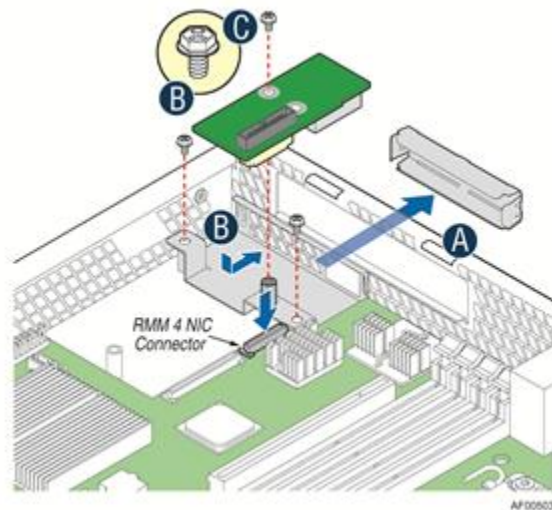

Figure 9: Adding the Intel® Dedicated Server Management NIC module in the Intel® Server System R1000EP Family
3. Insert and fit the metal adapter into the position as shown in Figure 9. Secure the adapter with two screws as shown (see letter “B”).